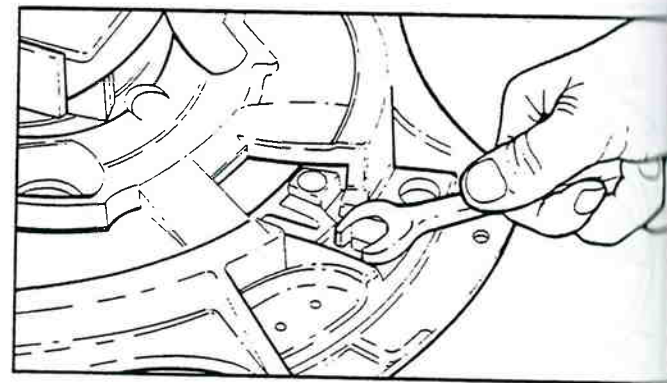

Figure 5-26. Replace Adjusting Ring Lock.
13. Complete reassembly by turning assembly on pressure plate side and replace adjusting ring lock (D-2) and bolt assembly (D-3) (figure 5-26).